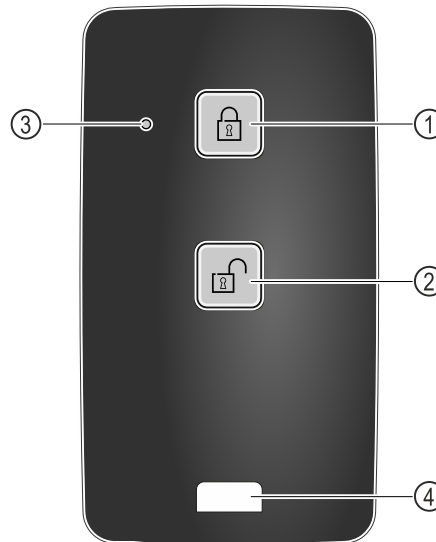

Fig. 210
- (1) Engage lock
- (2) Unlock lock
- (3) Status LED
- (4) Fastening eyelet
- ▶ Press button Fig. 210 (1) on the remote control.
- ▶ Press button Fig. 210 (2) on the remote control.
- ▶ Status LED Fig. 210 (3) provides a visual acknowledgement when you press the button.
- ▶ Eyelet Fig. 210 (4) for attaching remote control, for example, to a key ring.